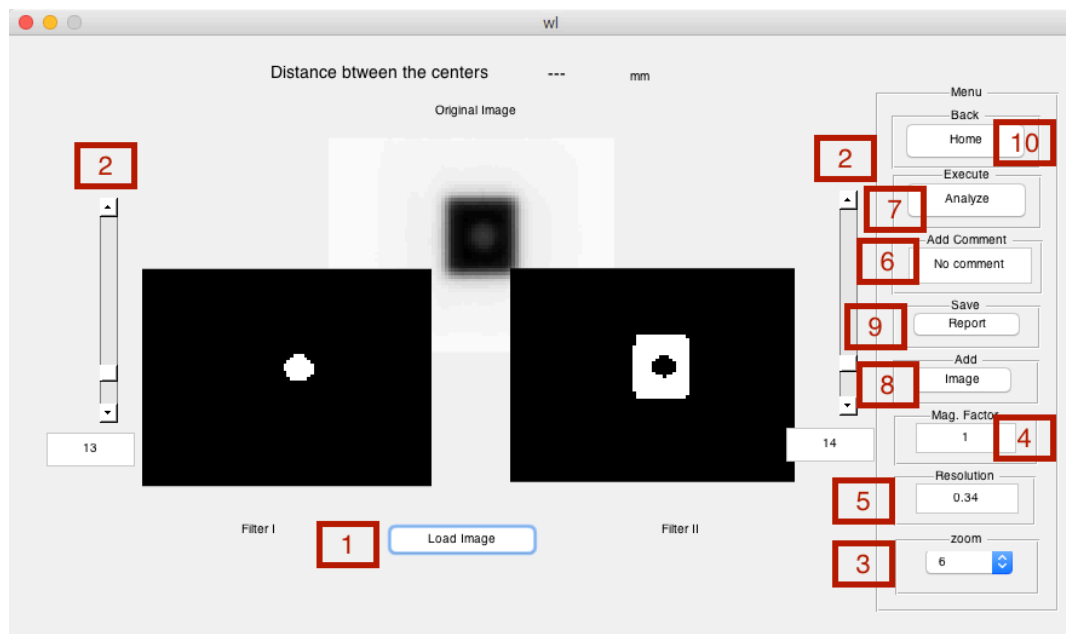

Fig. 9: QALMA Winston-Lutz module
2. Two binary images will appear on filter I and filter II with two white objects, one of which would be the ball and the other one would be the radiation field with the ball removed from the initial image. The user can use the slider or text box to change the filter parameters to find the appropriate of the objects using trial and error. The example here (fig. 9) shows a proper setting, which will vary for different images.